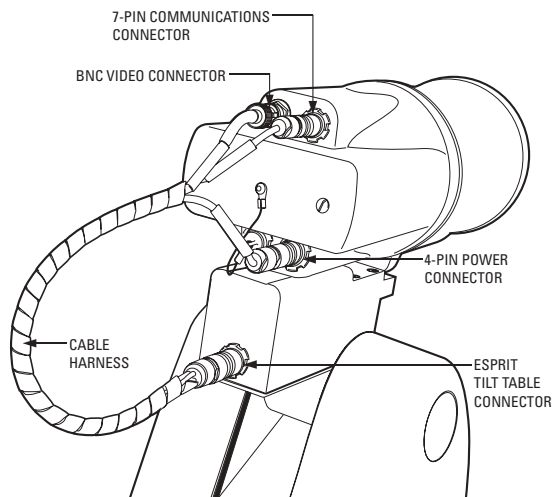

Figure 2. Cable Connections
2. Refer to Figure 2 and attach the harness cable to the system.